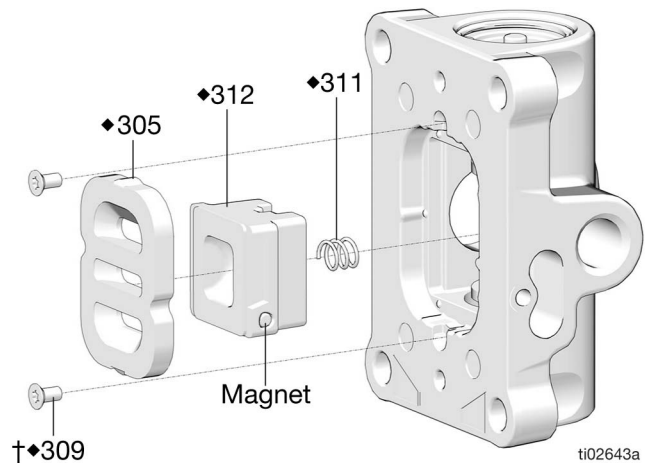

FIG. 17. Pneumatic Valve Cup Installation
7. Install the spring (311♦). Lubricate and install the pneumatic valve cup (312♦), see FIG. 17. Align the small round magnet with the pneumatic inlet.